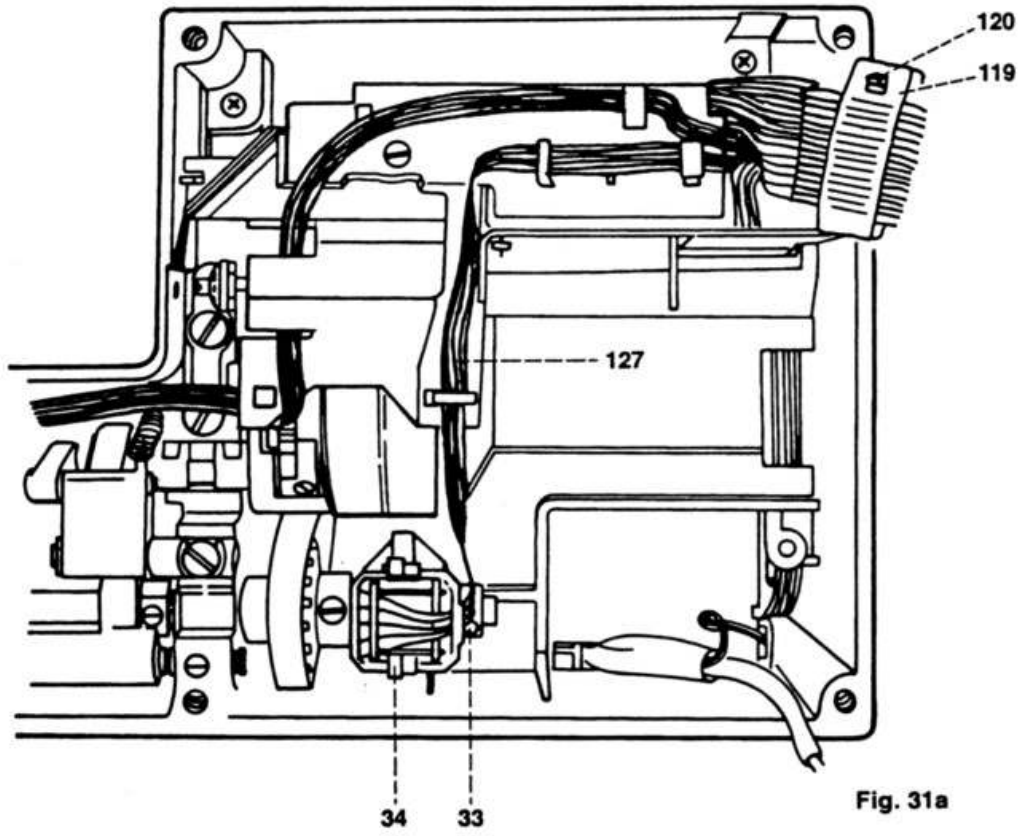

Fig. 31a
- Open both cable clips 119 at catch 120 and remove the five-wire flat cable from the cable guide (fig. 31a).